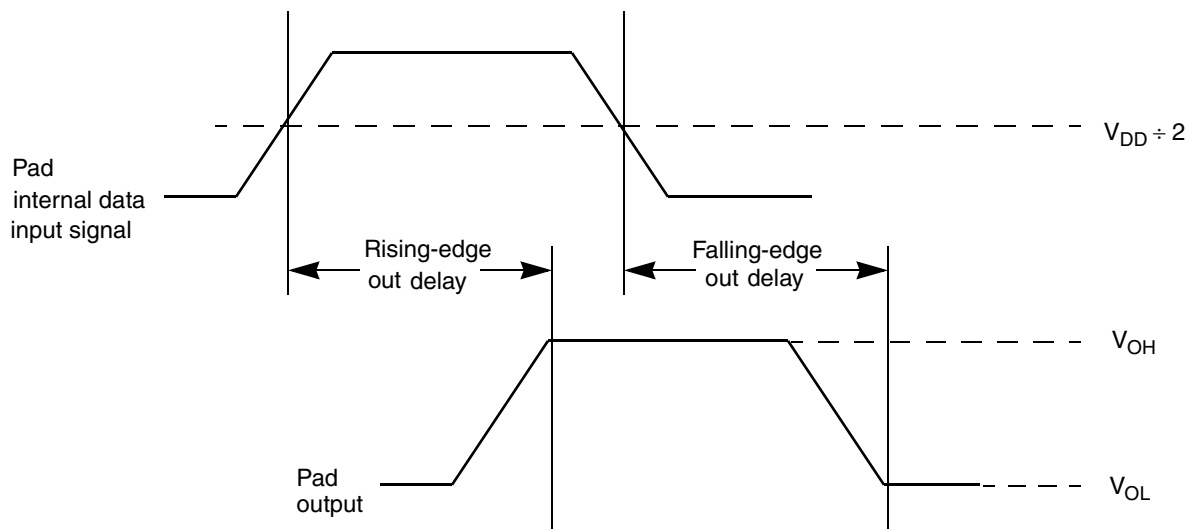

Figure 4. Pad Output Delay
³ The output delay is shown in Figure 4. To calculate the output delay with respect to the system clock, add a maximum of one system clock to the output delay.
- ⁴ The output delay is shown in Figure 4. To calculate the output delay with respect to the system clock, add a maximum of one system clock to the output delay.